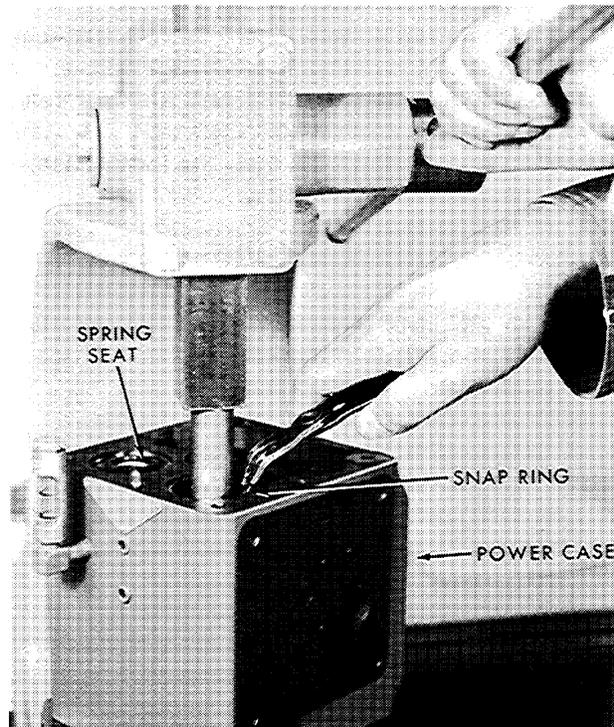

Figure 4-1. Removing Accumulator Retaining Ring
2. Install the accumulator piston (249) and lower retaining ring (245) into the power case. Place the power case in an arbor or drill press with bottom down (see Figure 4-1), and install springs (247 and 248) and spring seat (246); compress the springs, using a rod on the spring seat, and install the upper retaining ring.
3. Attach the base assembly (207) to the power case loosely, rotate the drive shaft until the splined end engages with the splines in the pump drive gear. Continue turning the drive shaft to check for alignment and free rotation of the drive gear and idler gear while tightening base screws.
4. Attach the power cylinder assembly (203) to the power case in the proper plan and quadrant; ensure that the holes in the gasket (204) are aligned with the holes in the power case.